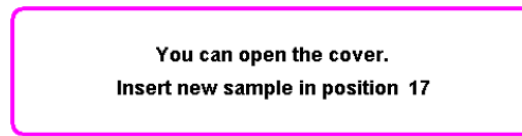

Figure 39 – Cover open
2. A prompt to authorize opening the lid will display (Figure 39).